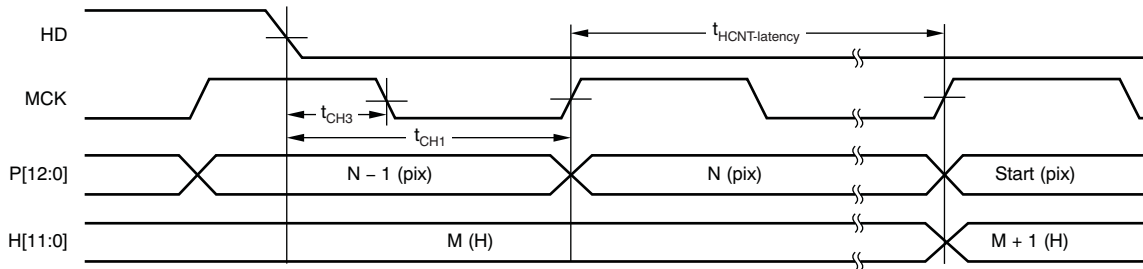
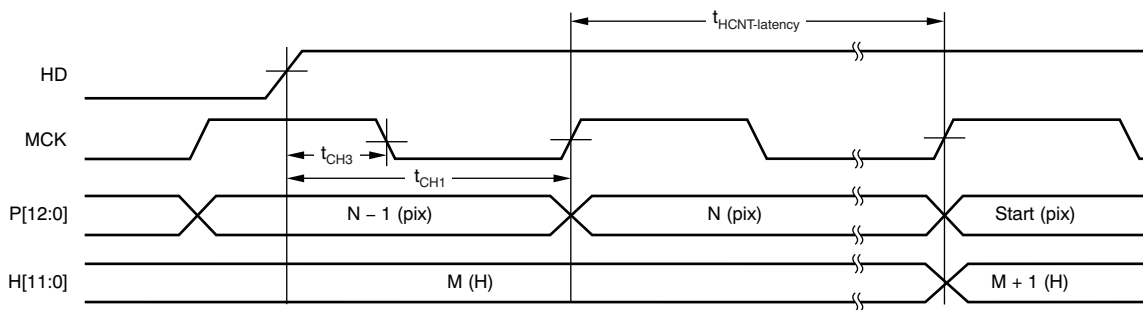

Figure 4. HD Falling Edge Detect
Figure 5. HD Rising Edge Detect
HCOUNTER is reset via HD detection. The timing is shown in Figure 4 and Figure 5.
Table 5. Timing Characteristics for Figure 4 and Figure 5 (1)